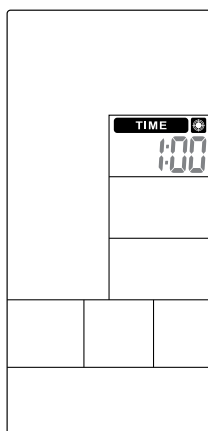

Figure 39
- ① In Standby mode, press Target Time key and **TIME** will light up, along with a long sound for 1s.
- ② **TIME** value is flashing, press UP and DOWN to adjust (Figure 39) and press ENTER to confirm meanwhile buzzer beeps 1s and **TIME** lasting lighting up.